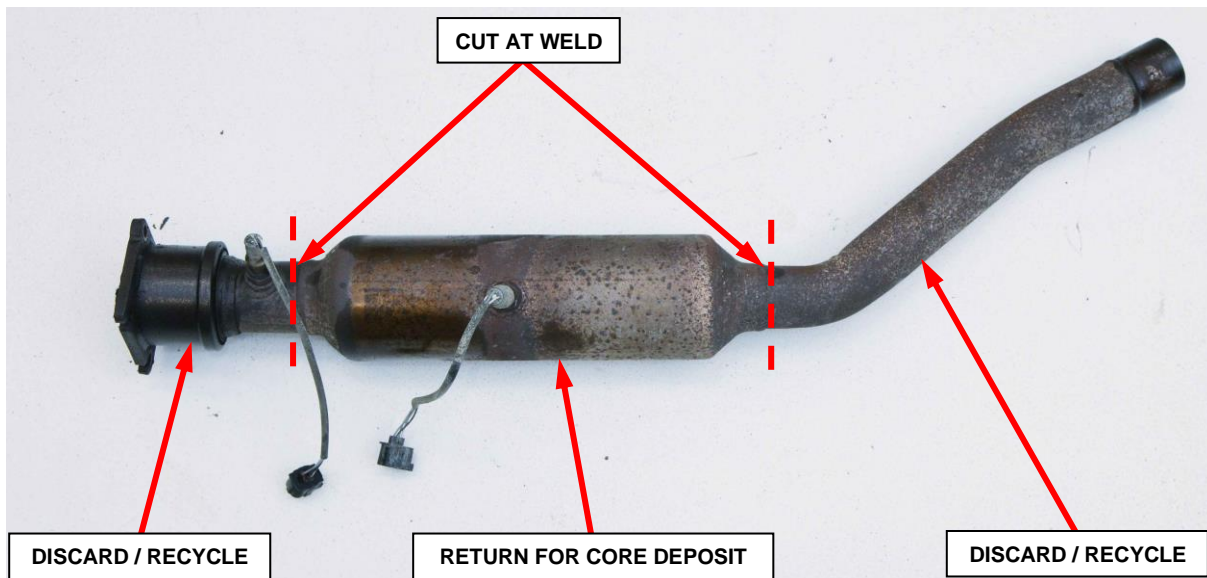

Figure 17 – Remove Pipes from Catalyst for Core Return
1. Cut the inlet and outlet pipes off of the catalyst as close to the pipe weld as possible (Figure 17).
2. Return only the catalyst section for core deposit credit. Discard / recycle the pipes cut off of the catalyst section (Figure 17).